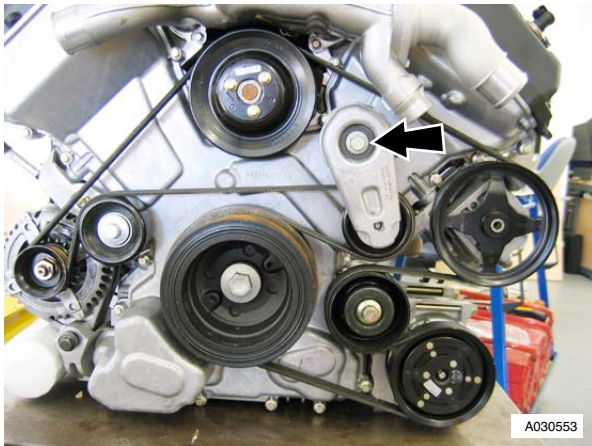

Figure 3
21. Remove the M10 bolt that attaches the auxiliary drive belt tensioner and remove tensioner (Refer to Figure 3).